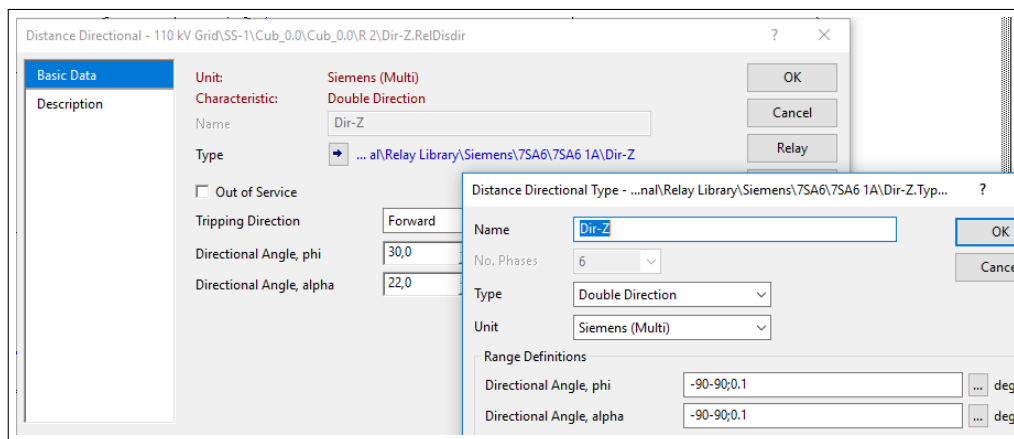

Figure 6.6: Changes of the directional block
- Change the type of used directional block according to the figure 6.6.